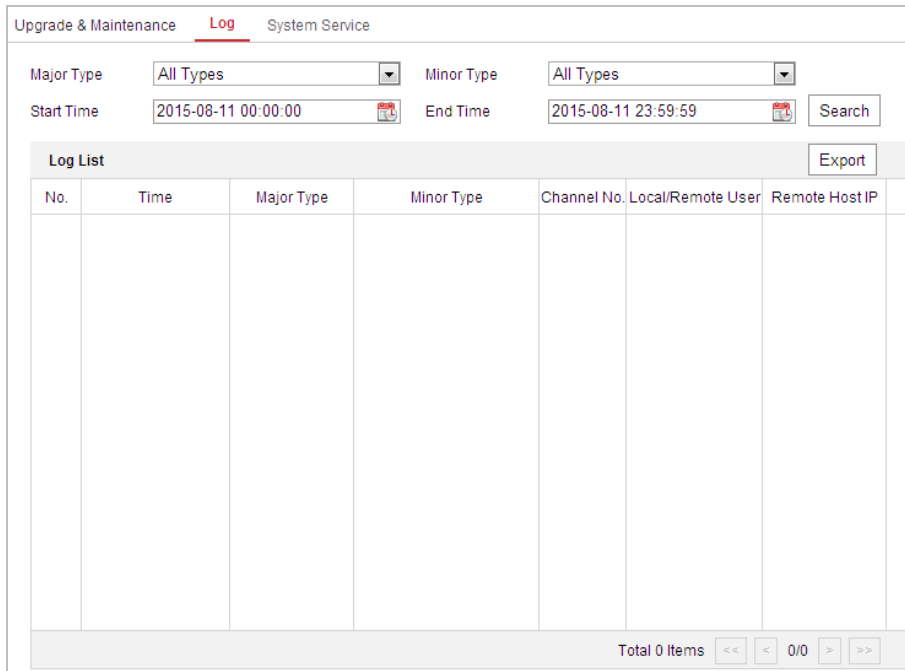

Figure 6-51 Log Searching Interface
2. Set the log search conditions to specify the search, including the Major Type, Minor Type, Start Time and End Time as shown in Figure 6-51.